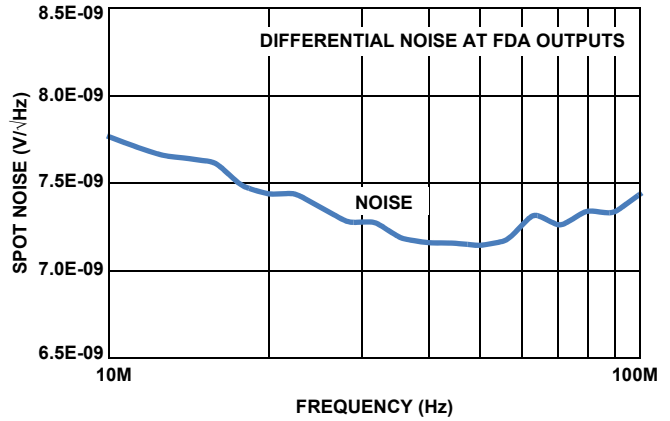

FIGURE 8. MEASURED OUTPUT NOISE FOR THE CIRCUIT OF FIGURE 4
The Noise Figure (NF) in this relatively low gain setting calculates to approximately 7dB. This low NF is depending on the low 0.85nV/ $\sqrt{\text{Hz}}$  differential input spot noise for the ISL55210 and the reduced resistor values enabled by this active input match capability. Going to higher gain settings will reduce the input NF where for gains  $>22$ dB it drops below 6dB; a remarkable number for a 115mW amplifier. These numbers are from an analysis using only the differential path noise numbers. Since this topology will also have a common mode noise component, the measured NF will be slightly higher due to component mismatches converting a small portion of the common mode noise to differential. Measuring the spot output noise for the default configuration of the active balun board with a 50Ω termination on the input and referring that measurement to the FDA differential output pins gives the plot of Figure 8.